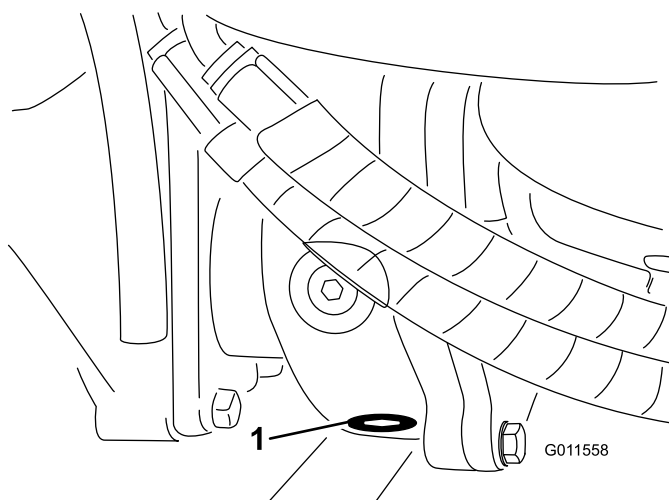

Figure 66
5. Clean the area around the drain plug on the bottom of the gear box (Figure 66).